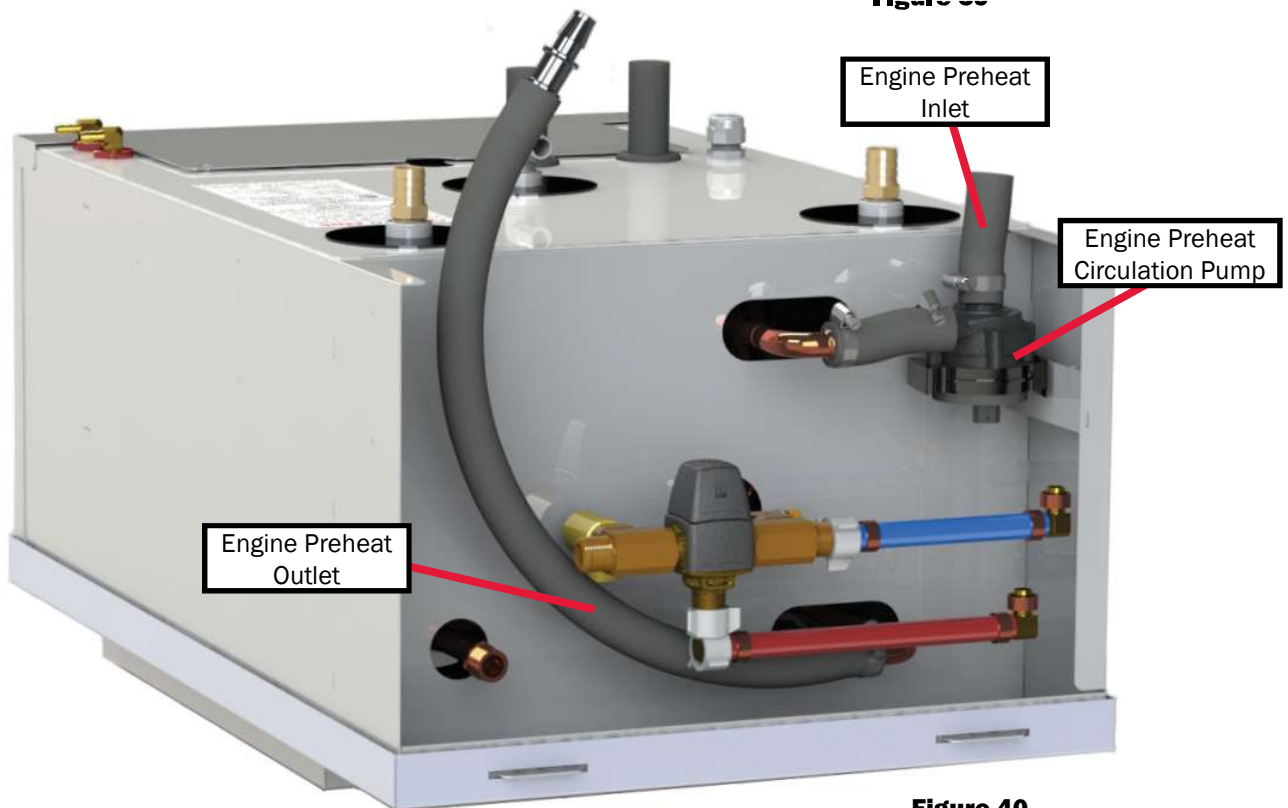

Figure 40
6. Install and tighten a plumbing fitting into the "inlet" port on the Aqua-Hot's engine preheating system. See Figure 40.